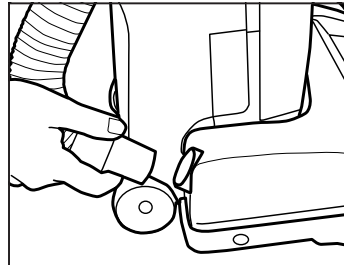

Fig. 3
1. Remove the stretch hose from the nozzle of the vacuum (Fig. 3).